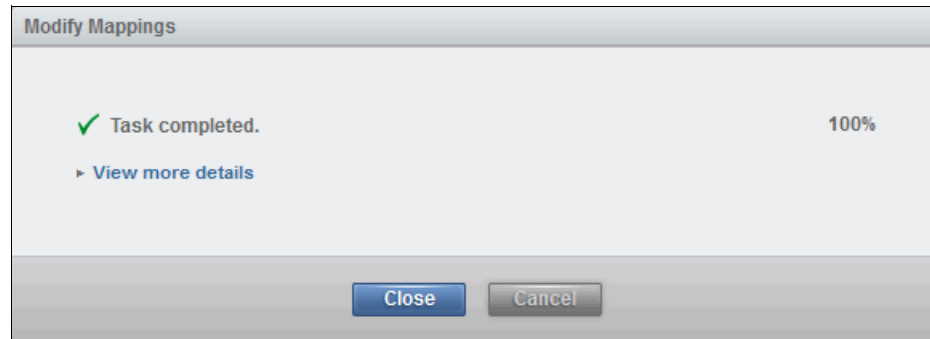

Figure 5-22 Completion of the Modify Mappings wizard
- After clicking **Map Volumes**, the wizard completes, as shown in Figure 5-22.